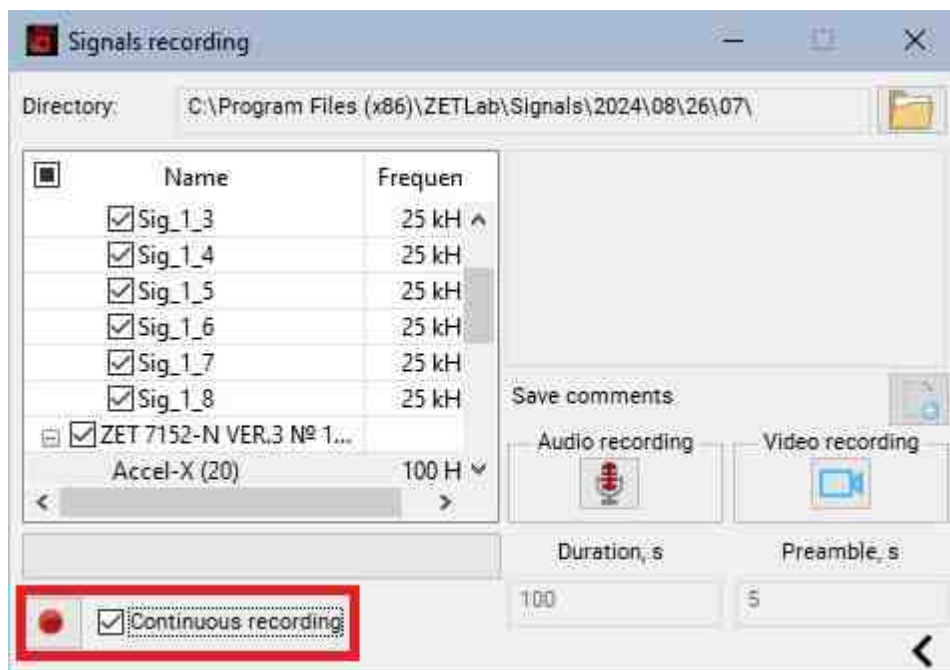

Fig. 2.6 Continuous recording in the program "Signals recording"
- Activate the field in the "Continuous recording" cell (Fig. 2.6), then press the button .